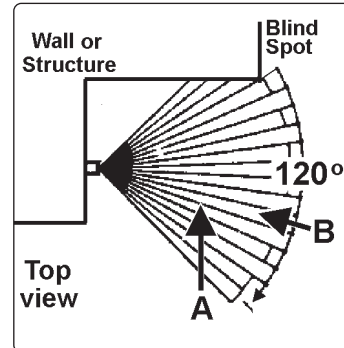

fig.3
- 4.2.2. Adjustment may be made by turning the three switches located on the underside of the sensor as follows: (fig.3).